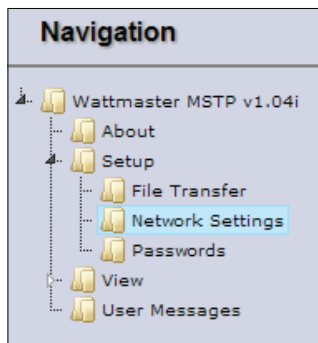

Figure 29: Setup - Network Settings
1.) In the *Navigation Window* on the left of the *FS-GUI Screen*, click **<Setup>** and then click **<Network Settings>**. See **Figure 29**. The *Networks Settings Window* will appear.